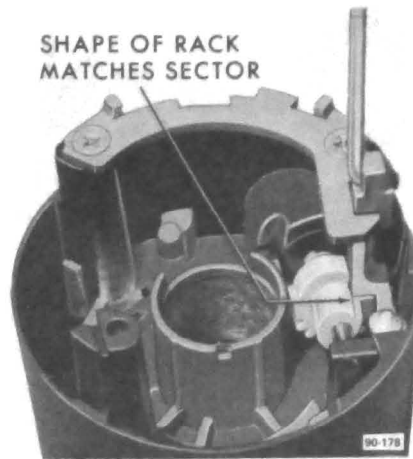

Figure 90-123 - Rack and Lock Bolt Assembled to Sector
5. Insert the rack and lock bolt into the housing from the bottom with the teeth up (toward steering wheel) and toward the centerline of the column. See Figure 90-123.